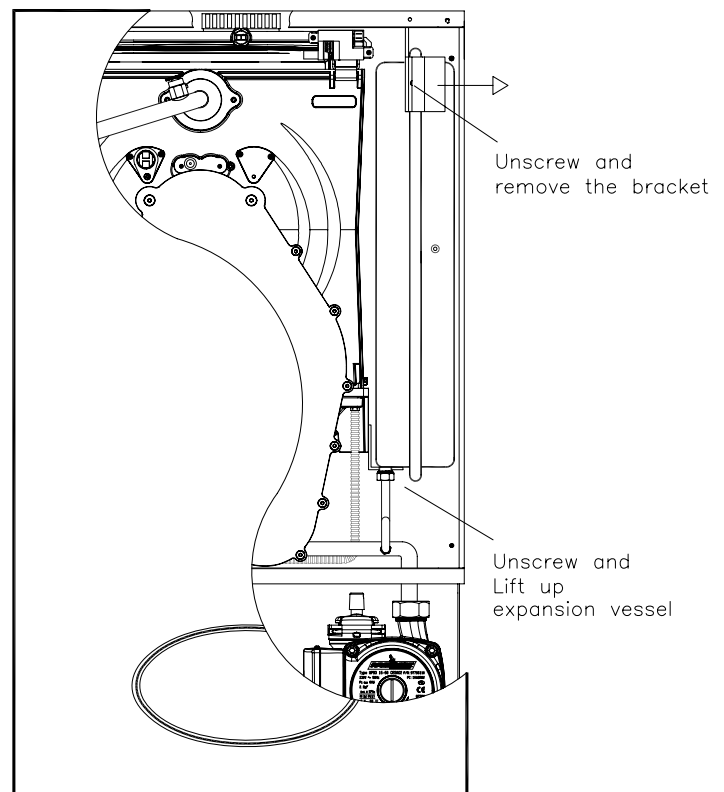

Fig.47
8.8 TO REMOVE/REPLACE EXPANSION VESSEL (Fig.47).